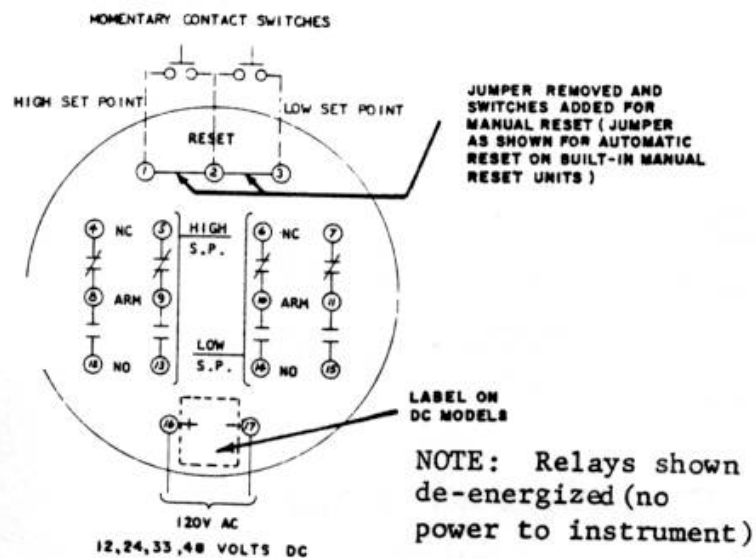

Fig. 2 - Control Unit
**EXTERNAL (User Supplied)** - All sizes of 195 and 196 Series Meter Relays can be wired for manual reset action by the connection of user-supplied momentary contact switch(es) to the appropriate terminals and by the removal of jumper(s) as indicated in Fig. 2. Thus, when the relay is tripped, the load relay(s) cannot be re-energized again until (a) the indicating pointer is in a position to admit light to the sensor per Table 1 and (b) the external (normally open) momentary push-button switch is pressed.
- LOAD RELAY:** a. Three-pole double-throw for each setpoint. Only two poles/setpoint available for external connections. (See external connections - Fig. 2.) Only one pole/setpoint available on self-contained manual reset models.
**CONTROL ACTION:** Automatic on/off action (Automatic Alarm Rest). If alarm or limit control action (Manual Alarm Reset) is desired, the user can provide it by removing jumper wires and adding momentary-contact or push-button switches as shown in Fig. 2. If built-in manual reset option is supplied and automatic reset is desired, connect jumpers across Terminals 1, 2 and 3 per Fig. 2.
Terminals for the 117 VAC, 60 Hz power supply for the double-pole, double-throw relays (one per setpoint) and for the alarm or limit control action are on the back of the control unit. Each terminal is supplied with a No. 6-32 pan head machine screw. (See Figures 2 and 3 for terminal layout.)
The relay terminals are entirely passive and are completely isolated from either the measured circuit or the power supply circuit. (See Table 1 and Figure 2 for relay operation.)